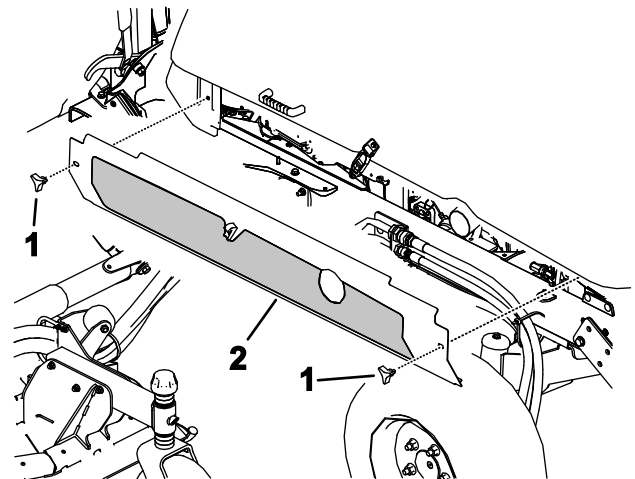

Figure 111
4. Loosen the knobs and remove both side shrouds (Figure 111).
5. Install the side shrouds (Figure 111).